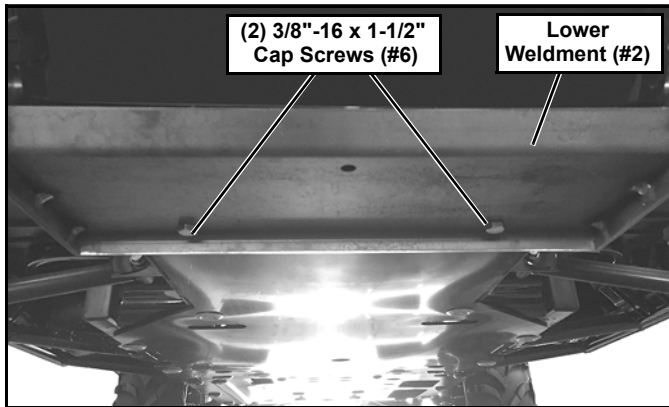

Figure 3
- Insert (2) 3/8"-16 x 1-1/2" Cap Screws (#6) through the bottom holes in the Lower Weldment (#2) and into the frame. Secure with (2) 3/8"-16 Lock Nuts (#7). (See Figure 3.)